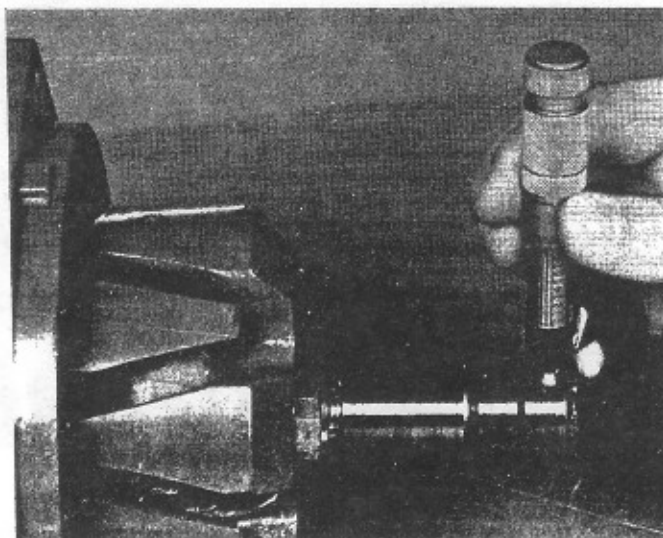

Figure 15
15. Check slip ring diameter (Fig. 15). Minimum diameter allowed = .767"